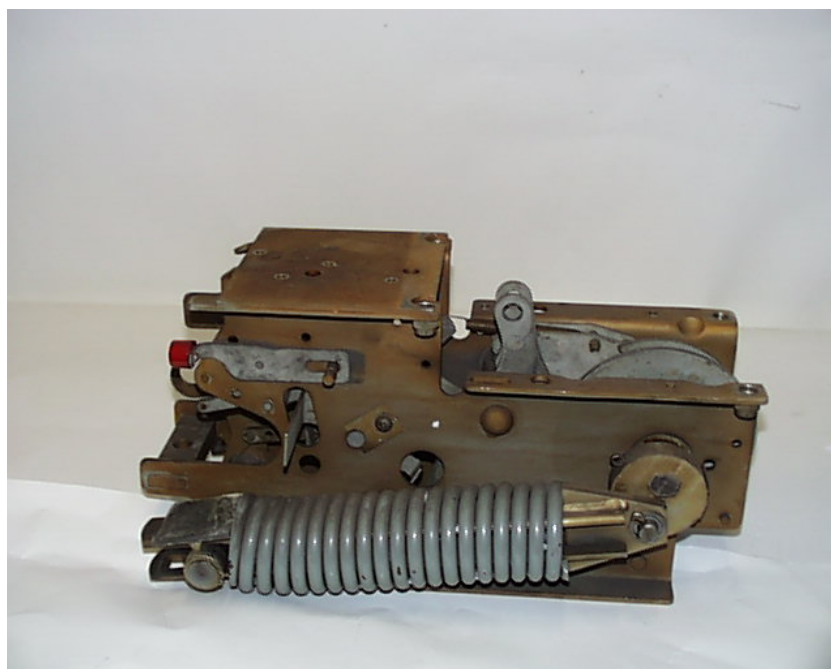

Figure 8-6 HK operating mechanism
8.3.8 HK operating mechanism (Figure 8-6): All the HK operating mechanisms used at nuclear plants are essentially the same. The closing springs will change as the breaker rating increases.